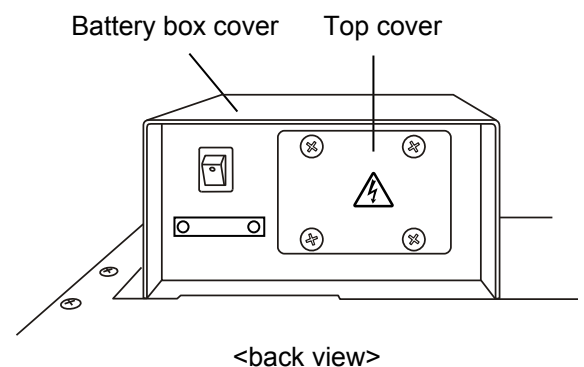

Fig. 6
8. Put the battery box cover over the battery box and fix the battery box cover with screws (3 screws on the right and left). [Fig. 6]